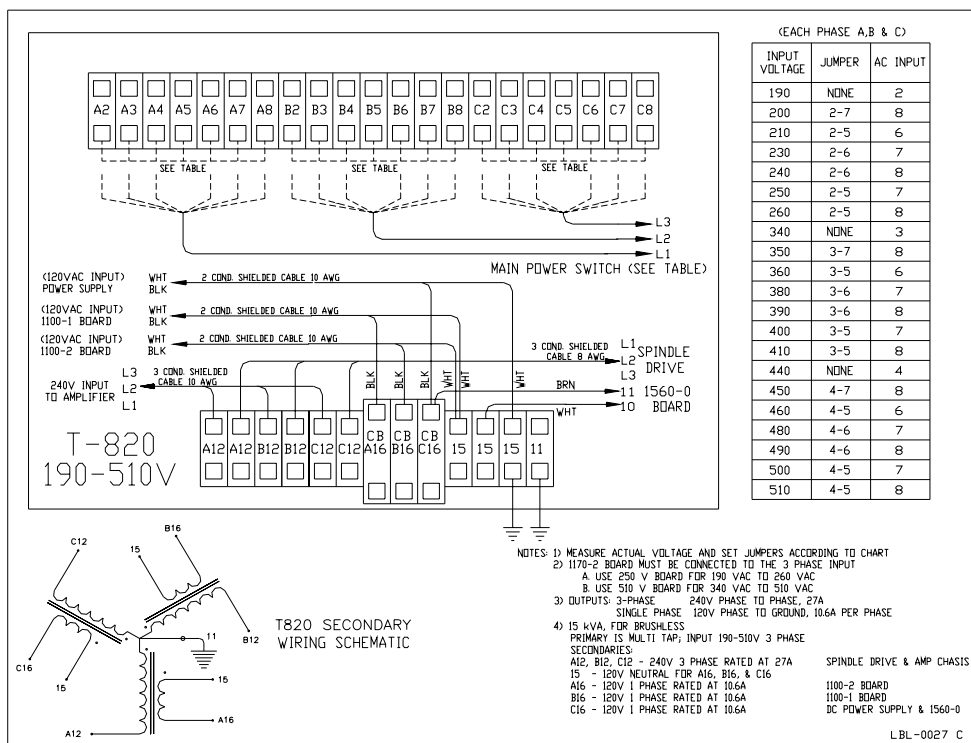
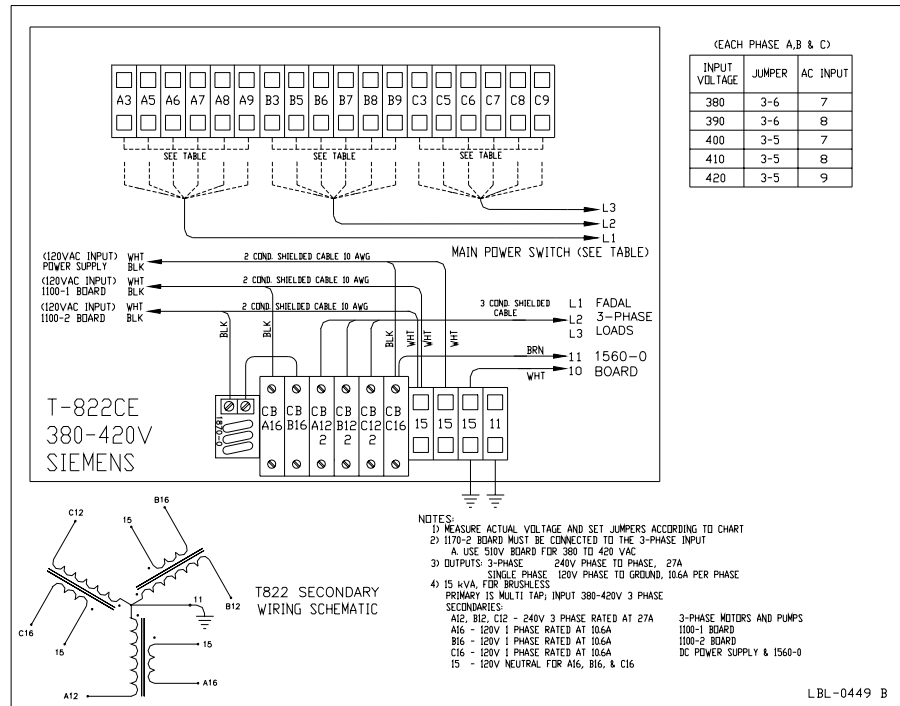

Figure 3-10
Figure 3-11
- 3) Identify the jumper and AC input locations. Use **figures 3-10 through 3-14** for three phase and single phase transformers.
- 4) With the jumper and AC input locations, locate the voltage setting of the transformer using the table in either **Figure 3-10 (3 phase)** or **Figure 3-11 (single phase)**.